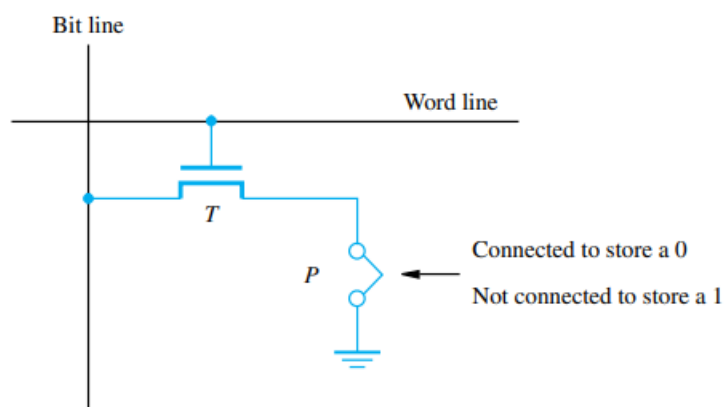

Figure 8.11 A ROM cell.
A memory is called a read-only memory, or ROM, when information can be written into it only once at the time of manufacture. Figure 8.11 shows a possible configuration for a ROM cell. A logic value 0 is stored in the cell if the transistor is connected to ground at point P; otherwise, a 1 is stored. The bit line is connected through a resistor to the power supply. To read the state of the cell, the word line is activated to close the transistor switch. As a result, the voltage on the bit line drops to near zero if there is a connection between the transistor and ground. If there is no connection to ground,
Some ROM designs allow the data to be loaded by the user, thus providing a programmable ROM (PROM). Programmability is achieved by inserting a fuse at point P in Figure 8.11. Before it is programmed, the memory contains all 0s. The user can insert 1s at the required locations by burning out the fuses at these locations using high-current pulses. Of course, this process is irreversible. PROMs provide flexibility and convenience not available with ROMs. The cost of preparing the masks needed for storing a particular information pattern makes ROMs cost effective only in large volumes. The alternative technology of PROMs provides a more convenient and considerably less expensive approach, because memory chips can be programmed directly by the user.
8.3.3 EPROM Another type of ROM chip provides an even higher level of convenience. It allows the stored data to be erased and new data to be written into it. Such an erasable, reprogrammable ROM is usually called an EPROM. It provides considerable flexibility during the development phase of digital systems. Since EPROMs are capable of retaining stored information for a long time, they can be used in place of ROMs or PROMs while software is being developed. In this way, memory changes and updates can be easily made. An EPROM cell has a structure similar to the ROM cell in Figure 8.11. However, the connection to ground at point P is made through a special transistor. The transistor is normally turned off, creating an open switch. It can be turned on by injecting charge into it that becomes trapped inside. Thus, an EPROM cell can be used to construct a memory in the same way as the previously discussed ROM cell. Erasure requires dissipating the charge trapped in the transistors that form the memory cells. This can be done by exposing the chip to ultraviolet light, which erases the entire contents of the chip. To make this possible, EPROM chips are mounted in packages that have transparent windows.